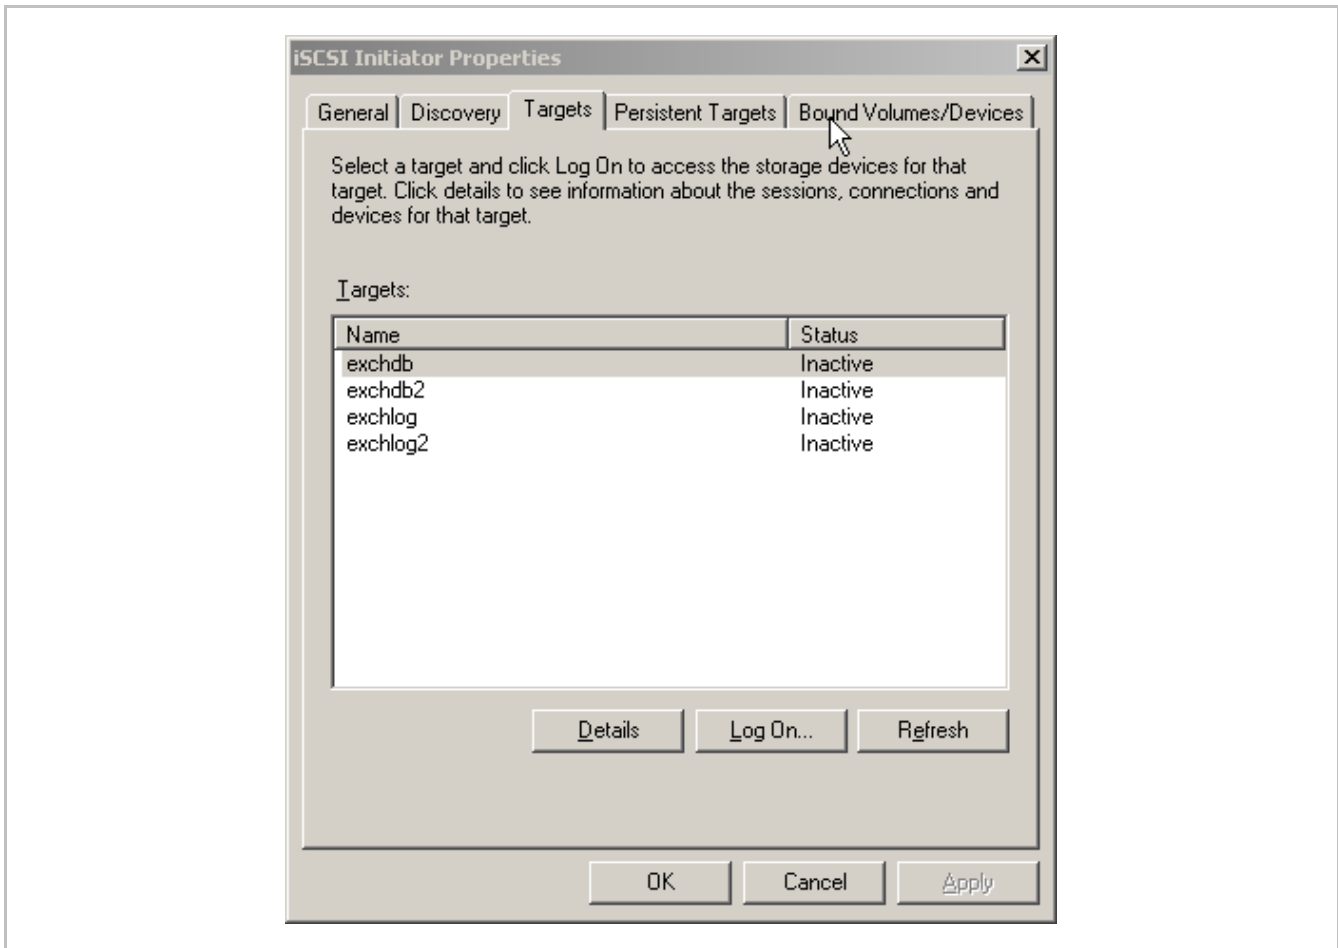
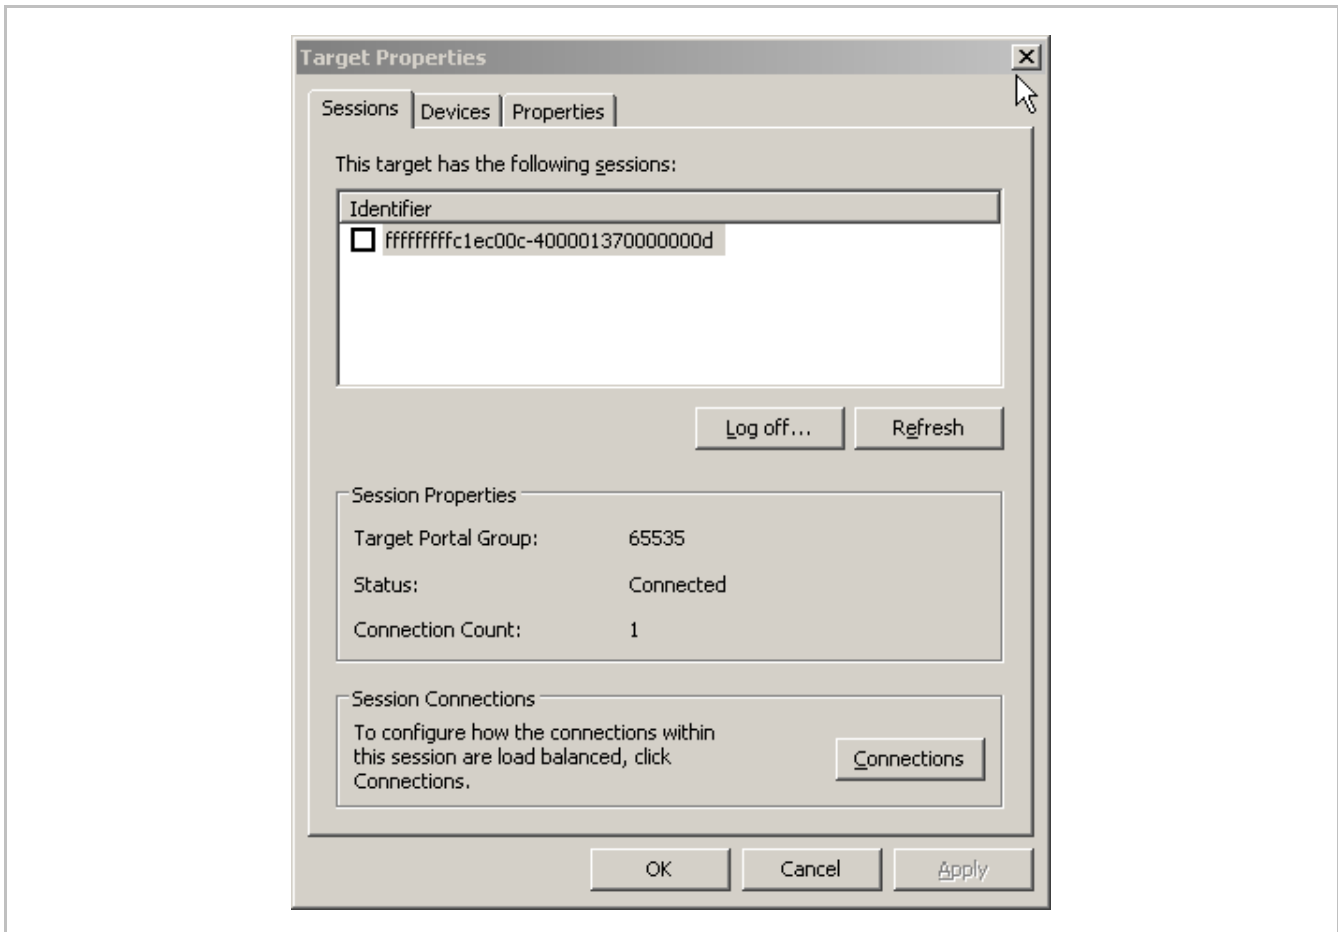

Figure 11. Configure Multi Connections – iSCSI Initiator Properties Window
Figure 14. Configure Multi Connections – Target Properties Window
2. Click the Target Tab (Figure 11).
7. In the Microsoft iSCSI initiator GUI (Target Tab Figure 11) choose the same target and click **[Details]**. The target properties window appears (Figure 14).